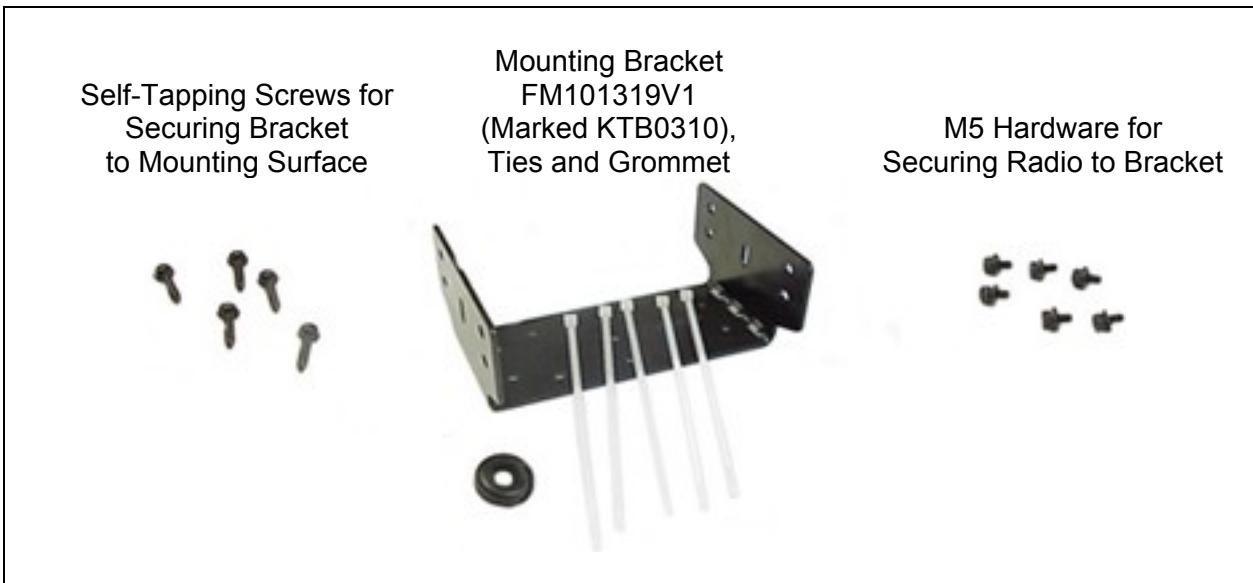

Figure 7-1: Front-Mount Mounting Bracket Kit KT101533V1
The Mounting Bracket Kit for the front-mount Unity XG-100M mobile radio includes a heavy-gauge steel U-shaped mounting bracket. The radio should be attached to a mounting surface using this bracket. The bracket can be mounted above or below the radio. Kit contents are shown in Figure 7-1.
The front-mount Unity XG-100M radio's mounting bracket is included with the Front-Mount Mounting Bracket Kit KT101533V1. Kit contents are shown in Figure 7-1. This kit is Item 1 listed in Table 4-3 (page 23).
2. Secure the radio to the bracket using at least four (4) of the six (6) M5 x 10 mm stainless-steel socket-head screws included with the Mounting Bracket Kit. These screws have captive lockwashers. Kit contents are shown in Figure 7-1. This kit is Item 1 listed in Table 4-3 (page 23).